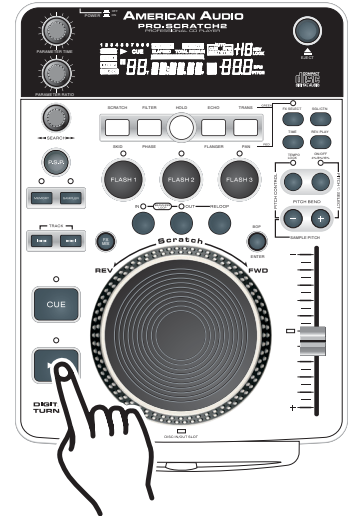
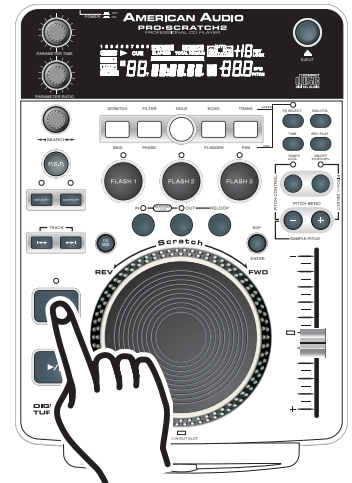
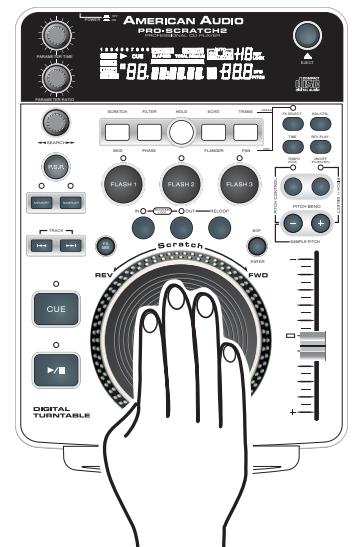

Figure 11
Figure 12
Figure 13
### 3. STARTING PLAYBACK - *Figure 11*
### 5. STOPPING PLAYBACK - *Figures 11 & 12*
### 6. PAUSING - *Figure 11*
This feature allows you to scroll through a track frame by frame, allowing you to find and set a starting cue, sample, or loop point. To use the scroll function you must first be in Pause Mode (see section 5) or Cue Mode (see section 7). Once you are in Pause or Cue mode, turn the *JOG WHEEL (16)* to scroll through the track (*Figure 13*). Turning the wheel in a clockwise direction will advance the frame search and turning the wheel in a counter-clockwise direction rewinds the frame search. When you use the *JOG WHEEL (16)* the monitor (headphone level) function allows you to here what you are scrolling through. Once you reach your desired starting point you can set a cue (starting) point by pressing the *PLAY/PAUSE BUTTON (17)* as in *Figure 11*. Pressing the *CUE BUTTON (15)* as in *Figure 12* will now return you to the point you just set.
3) Press the *OUT BUTTON* (32) to set the ending point for your SEAMLESS LOOP (Figure 13). The *IN BUTTON* (14) and *OUT BUTTON* (32) LEDs will immediately begin to flash rapidly, indicating the SEAMLESS LOOP mode has been activated.
**LCD LOOP INDICATORS** - During a seamless loop, the *LOOP* (47) and *RELOOP* (48) INDICATORS will turn on in the *LCD DISPLAY* (19) indication a loop is active.
**EXITING A LOOP** - To exit a SEAMLESS LOOP, press the *OUT BUTTON* (32). The *IN BUTTON* (14) and *OUT BUTTON* (32) LEDs will remain on, but will stop flashing. Music playback will resume normal play (Figure 13). The *IN BUTTON* (14) and *OUT BUTTON* (32) LEDs will remain on to remind you that a loop is stored in memory.